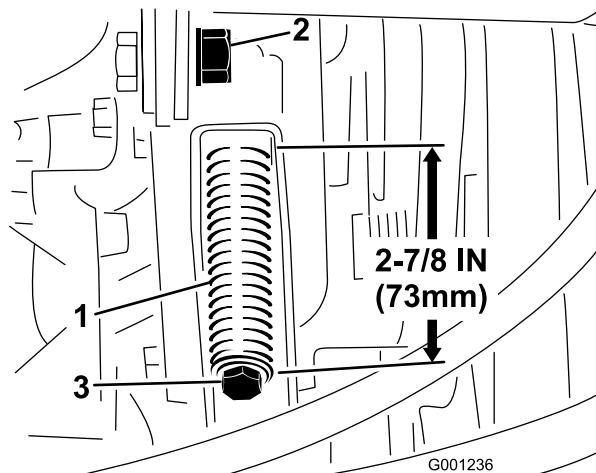

Figure 78
3. Loosen the tensioning-rod jam nut (Figure 78).
4. Use a 1/2-inch wrench to tighten or loosen the belt-tensioning spring (Figure 78). Adjust spring to a length of 273 mm (7 7/8 inch).
4. Using a 1/2-inch wrench, loosen the belt-tensioning spring (Figure 78) all the way.
6. Install the new PTO belt and tension the pulley spring to 73 mm (2-7/8 inches) (Figure 78).
7. Tighten the jam nut (Figure 78) and close the hood.